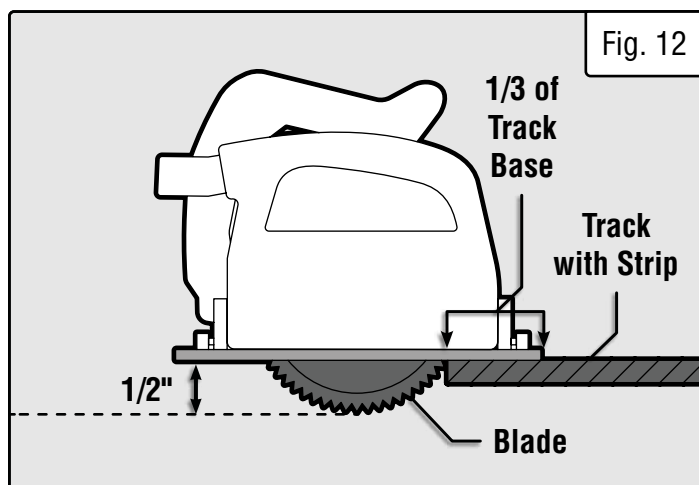

Fig. 12
3. Position the saw onto the end of the track with the back two-thirds of the saw hanging off. The goal should be to maximize the amount of the saw's base that is on the track while still being able to plunge the full 1/2" downwards without yet contacting the rubber strip with the blade (Fig. 12).